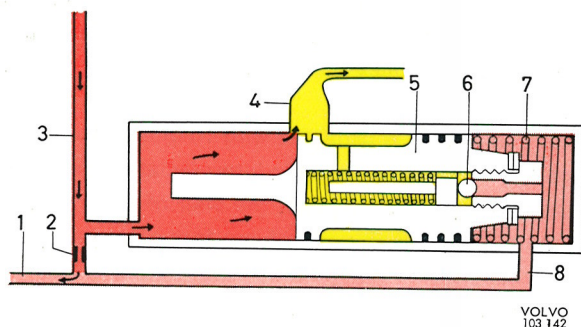

Fig. 6-48. Control valve, normal position
When the pump starts functioning, the valve (5, Fig. 6-48) maintains the valve pressed to the left of the spring (7). The oil supplied by the pump passes through the delivery channel (3) via the check valve (2) out into the delivery line (1) and from there to the steering housing. The space to the right of the
The check valve's (2) function is to ensure that the pressure on the left-hand side of the control valve piston is higher than that in the line and also to the right of the piston is therefore, displaced to the right. And when the speed is sufficiently high in relation to the counterpressure, the piston has been displaced so much that the surplus oil can flow back to the inlet side of the pump, see Fig. 6-48. Since the pump should deliver a quantity smaller than the maximum capacity, this valve adjustment can be called normal.